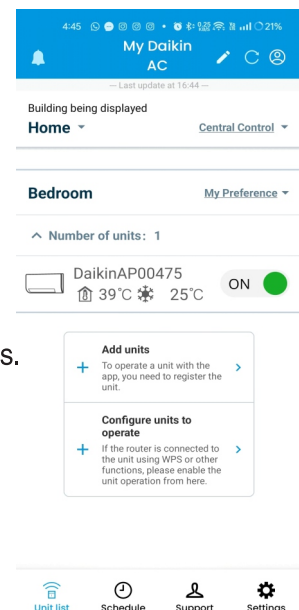

Fig.2
6) Open the DAIKIN AC MANAGER 2.0 MOBILE APP and select “Add Units” (Fig.2) and connect to your home network as per the on-screen instructions.